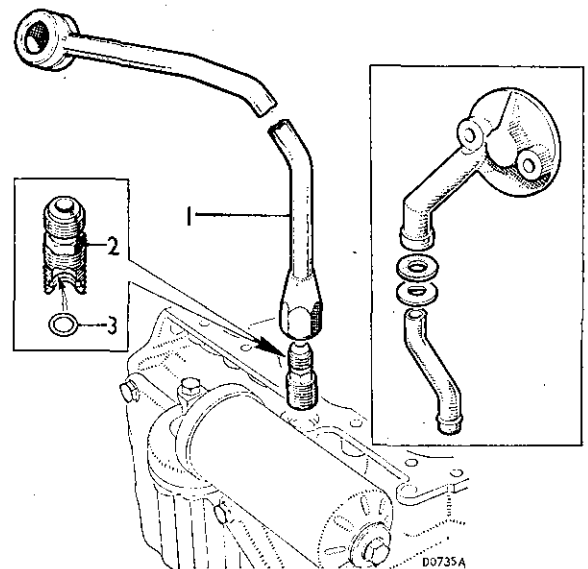

Fig. Aa.9
- (13) Remove the idler gear, thrust washers, and the converter output gear assembly.
- (14) Remove the oil filter assembly and disconnect the engine oil feed pipe together with, (on early units) its rubber seal and spring washer (see Fig. Aa.9).
- (15) Remove the nuts and set screws securing the engine to the transmission and with suitable lifting equipment lift away the engine from the transmission.